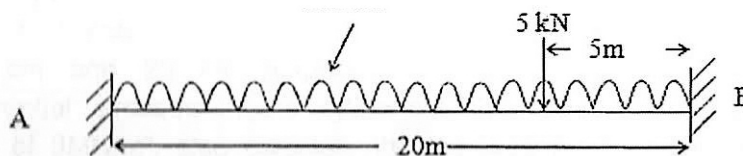

Fig. 3
- b) A fixed beam of constant EI is shown in the Fig. 3. Calculate the end reactions and sketch bending moment diagram and shear force diagram.